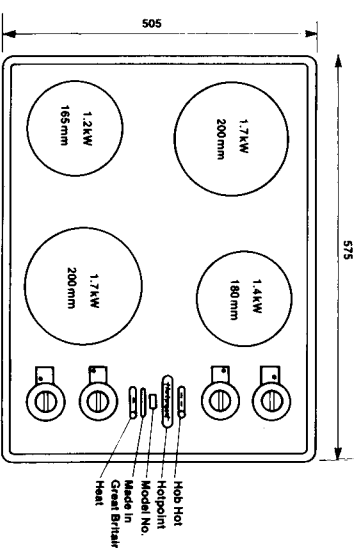

Fig. 4
The equipment has four cooking areas as shown in Fig. 4. The positions are clearly indicated on the hob by circles. Heating only occurs within the circles marked on the hob. The surface of the hob and the base of any pans used **MUST** be clean and dry.
The relevant control for each heating area is shown in Fig. 4. Each control can be used to select one of six temperature settings from a minimum at position 1 to a maximum at position 6 (see Fig. 5). For normal cooking, after having placed the pan on the required hob position, set the control knob to maximum (6); wait until boiling point is reached, then set the knob to a lower position as required. See chart below for guide to control settings.